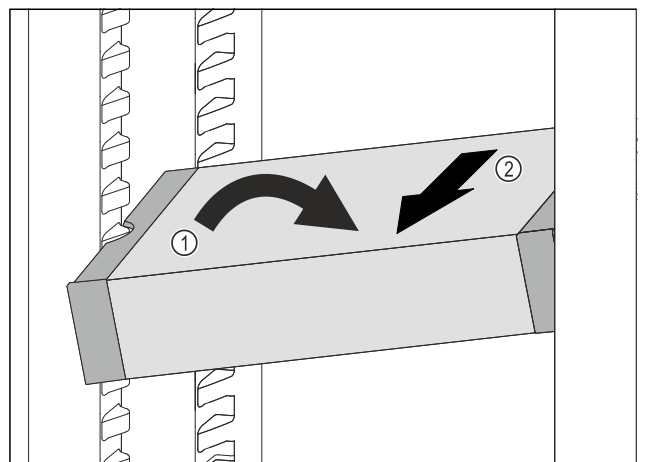

Fig. 161
- ▶ Set VarioSafe in refrigerator compartment at an angle. Fig. 161 (1)
- ▶ Take VarioSafe out to the front. Fig. 161 (2)